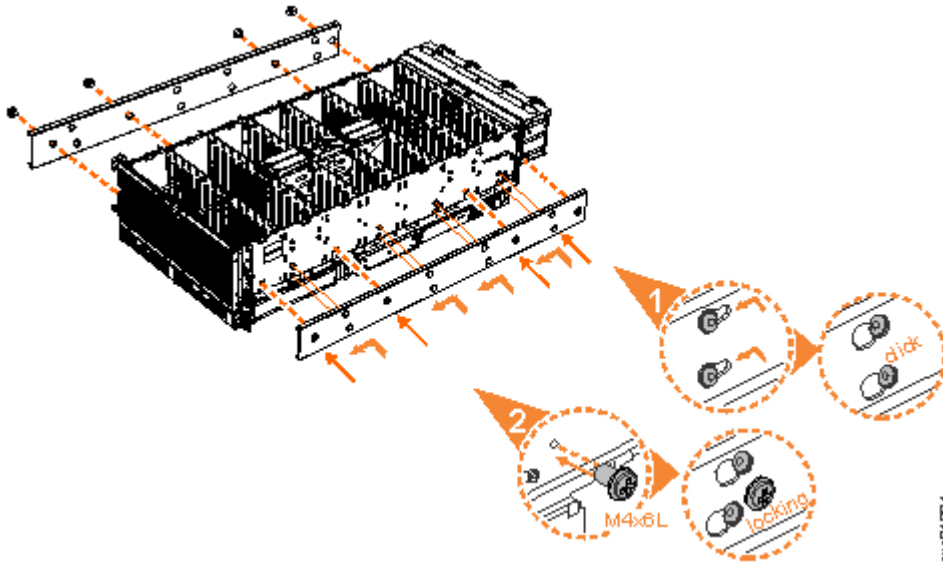

Figure 33. Attaching the inner rail section to the enclosure
5. Install the inner section of the rail onto each side of the expansion enclosure, as shown in Figure 33 on page 41.